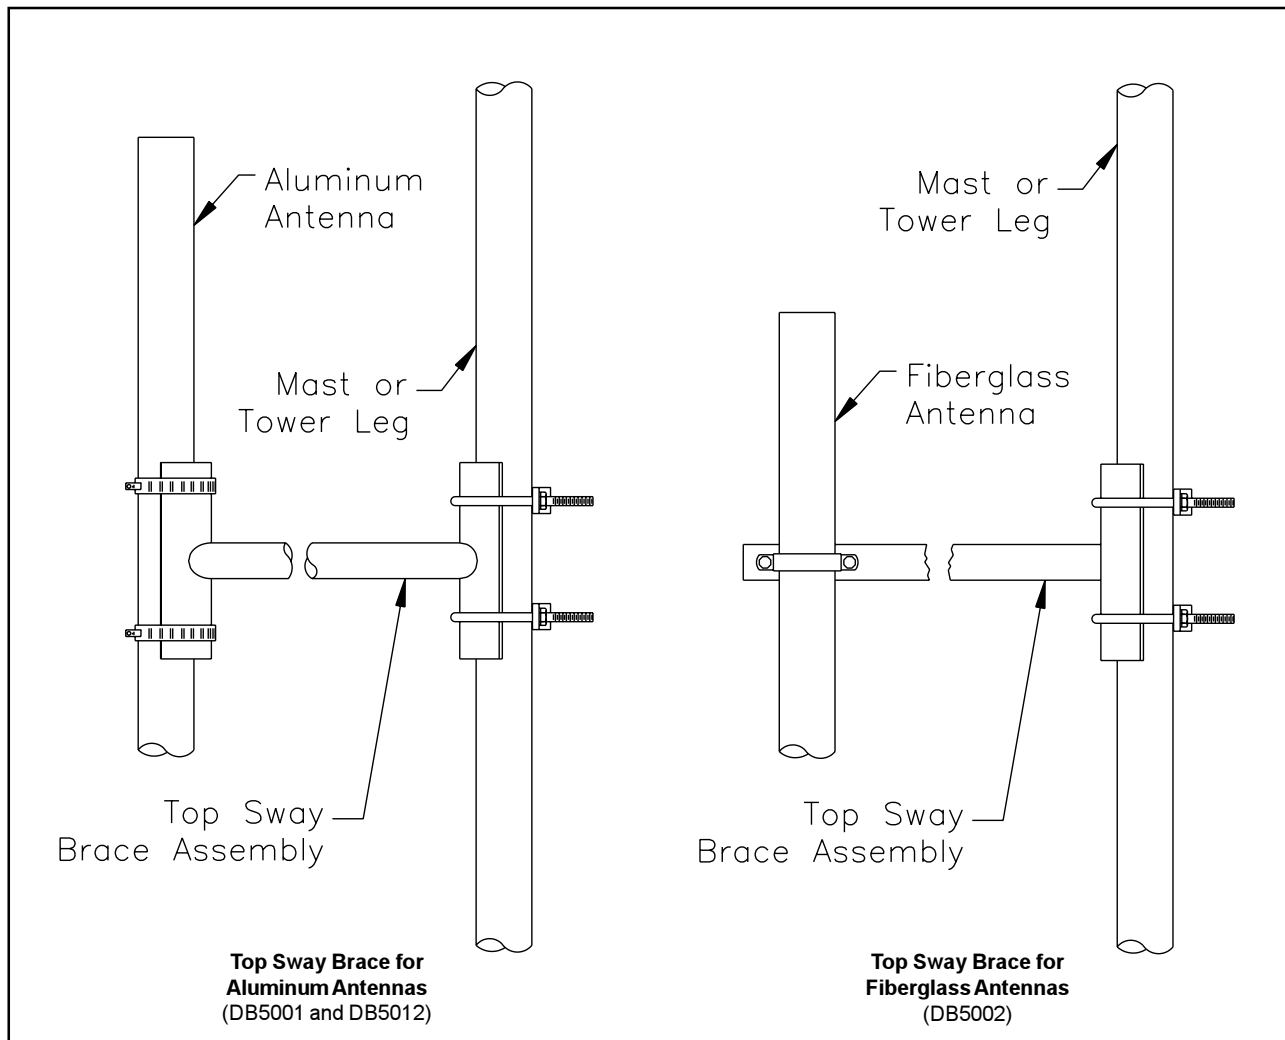

Figure 2. Installing the Top Sway Brace.
4. After the antenna is securely fastened to the bottom mounting bracket, attach the top sway brace to the mast or tower leg (Figure 2). The sway brace should be lo-
5. Using the clamps supplied with the side mount kit, secure the top of the antenna to the sway brace (Figure 2).